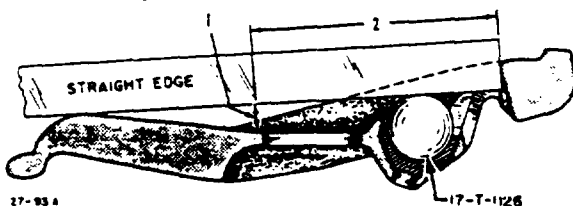

Figure 5-14. Checking Release Lever for Bend
4. Replace worn release levers, springs and ball seats. Check levers with a straight-edge and 11/16 inch ball (17-T-1126) as illustrated, in Figure 5-14 and if bent so that dimension (1) is more 11/32 inch when measured at a point where distance (2) is 2-1/2 inch, replace the lever.